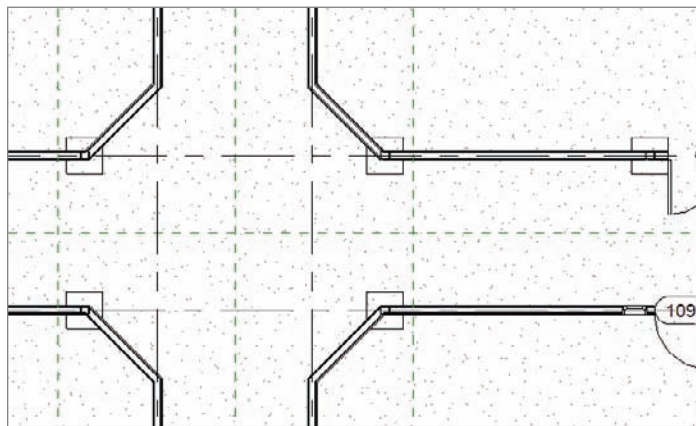

FIGURE 8.65 Making the necessary adjustments
12. Do the same for the pier under the doorway, as shown in Figure 8.65.